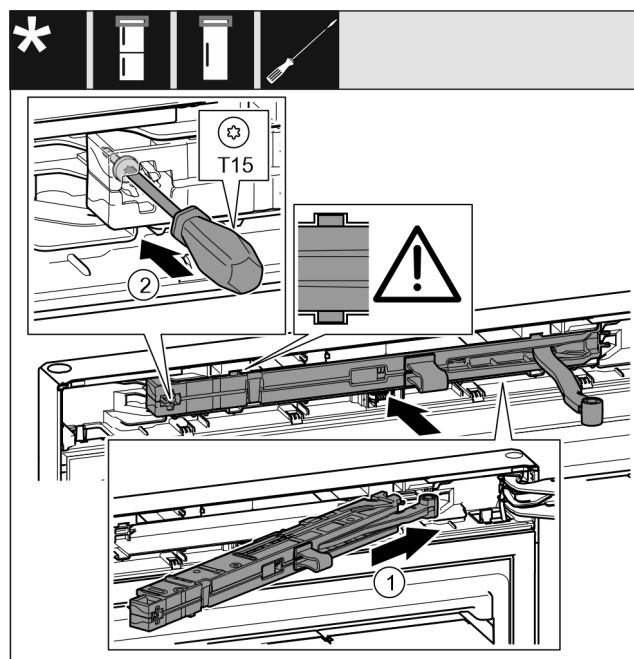

Fig. 23
- On the swap bearing block side, slide the closing damper unit *Fig. 23 (1)* into the recess at an angle up to the stop.
- Use a screwdriver to tighten the screw *Fig. 23 (2)*.